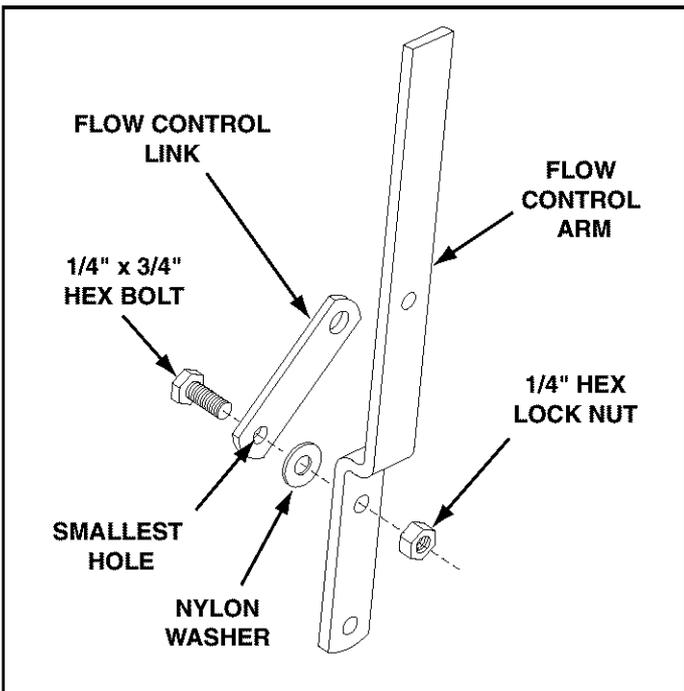

FIGURE 6
- Assemble the flow control link (end with small hole) to the flow control arm using a 1/4" x 3/4" hex bolt, a nylon washer and a 1/4" hex lock nut as shown in figure 6. **Tighten carefully.** The flow control link should not be loose but should pivot with no more than slight resistance.